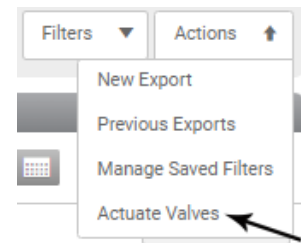

Figure 22: Actions drop-down menu
2. Select **Actuate Valves** from the **Actions** drop-down menu on the top right of the Monitor page (Figure 22).